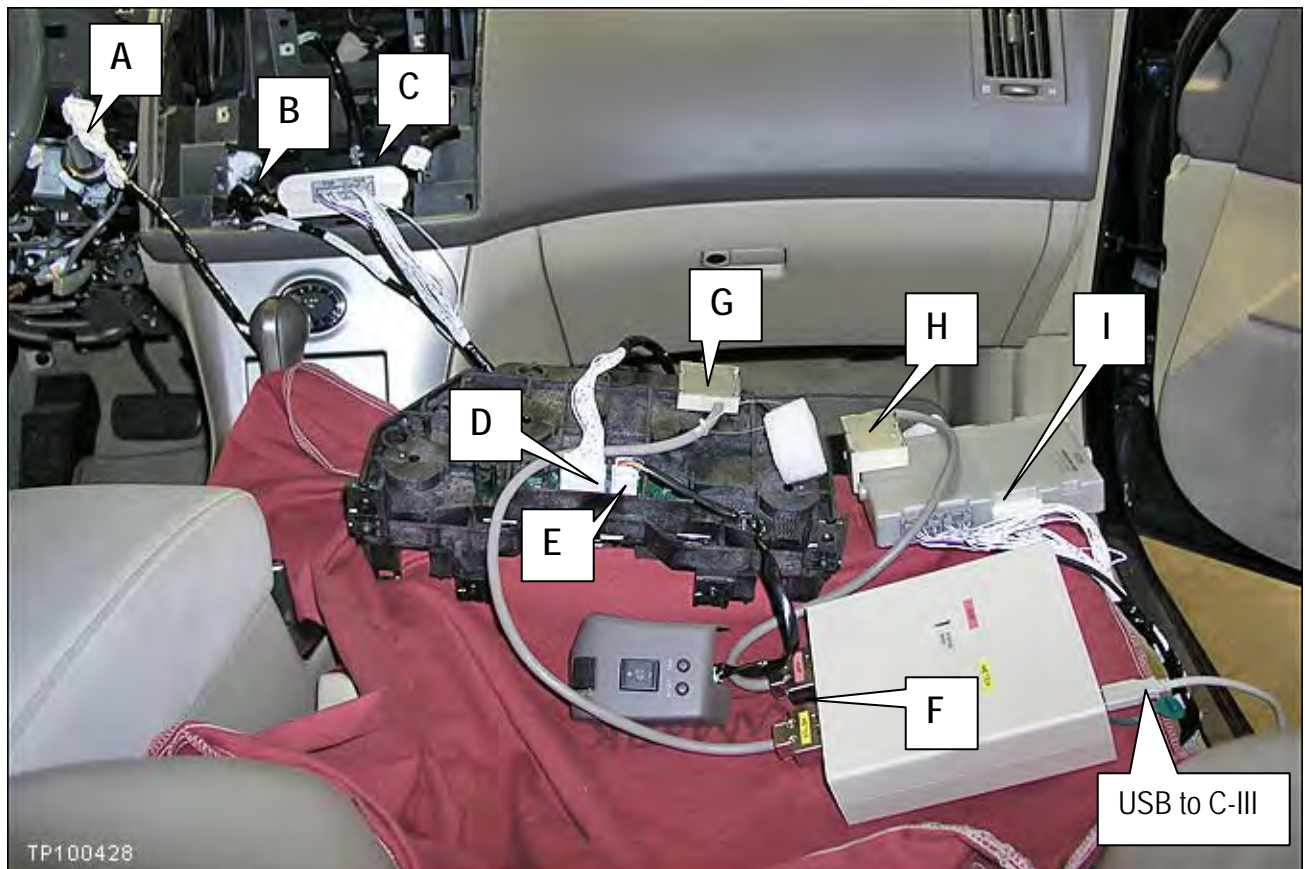

Figure 22
15. Attach the Meter Reprogramming Kit (J-50419) as shown in Figure 22.
- c. Disconnect and reconnect all of the reprogramming cables (see Figure 22 on page 11). Make sure all connectors are securely connected.